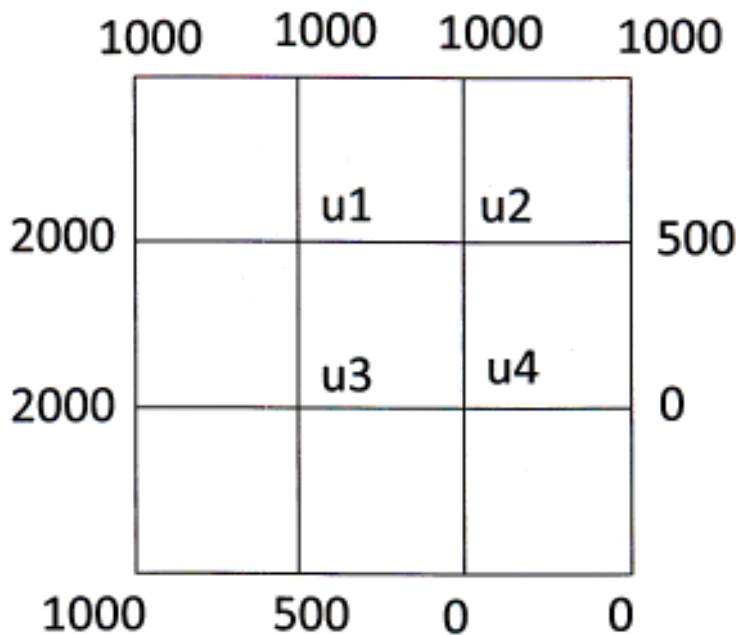

fig. 11a
11. a) Solve Laplace equation $\nabla^2 u = 0$ for given boundary conditions shown in fig. 11a. **10**